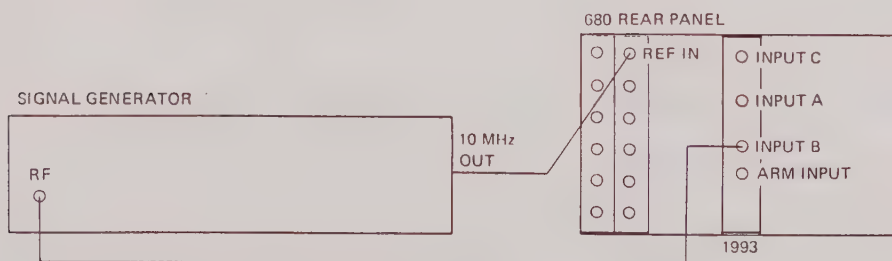

Fig 6.5 Connections for Channel B Input System Adjustment
- (1) Switch the 680 on. Select function FREQ B.
- (2) Select 50 ohms impedance for channel B.
- (3) Set the RESOLUTION to 4 digits.
- (4) Connect the test equipment as shown in Fig. 6.5.